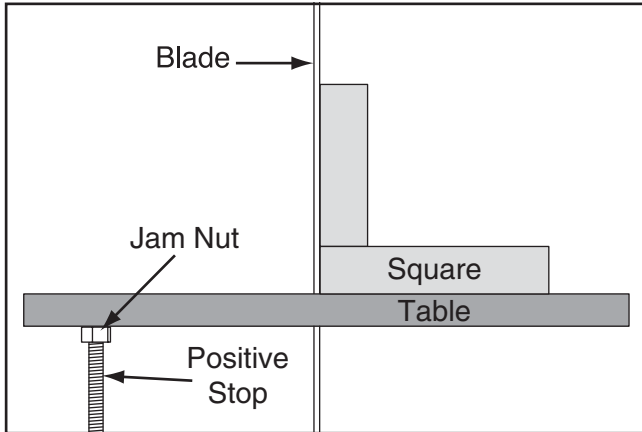

Figure 37. Using a square to adjust the table perpendicular to the side of the blade.
5. Completely raise the upper blade guide assembly, then place the machinist's square flat on the table and against the side of the blade, as illustrated in **Figure 37**.